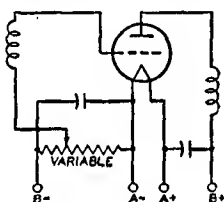

Fig. 84
Grid-bias variation for the rf and if amplifier stages is a convenient and frequently used method for controlling receiver volume. The variable voltage supplied to the grid may be obtained: (1) from a variable cathode resistor as shown in Figs. 84 and 85; (2) from a